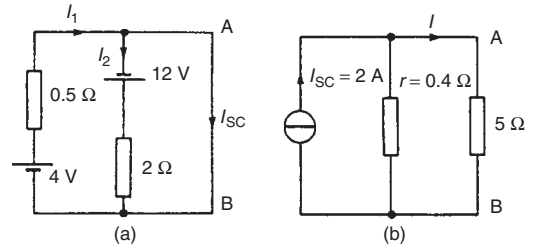

Figure 13.59
- (i) The 5 Ω branch is short-circuited as shown in Fig. 13.59(a)
(ii) From Fig. 13.59(a),
- (iv) From the Norton equivalent network shown in Fig. 13.59(b) the current in the 5 Ω resistance is given by: